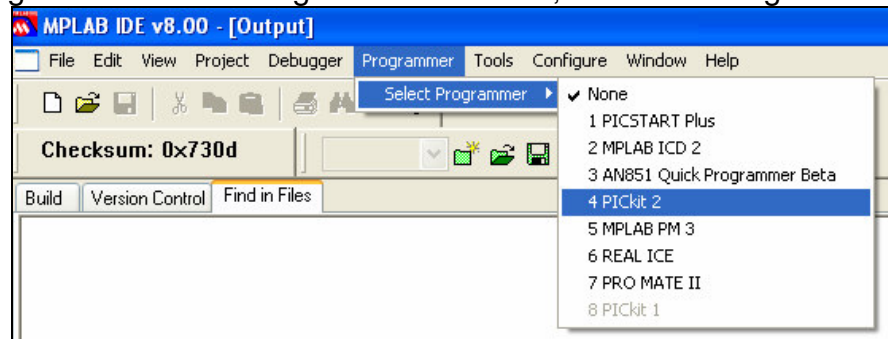

Figure 13 Select Program Device
5. Click "Programmer/Select Programmer/PICkit 2", as shown in figure 13.